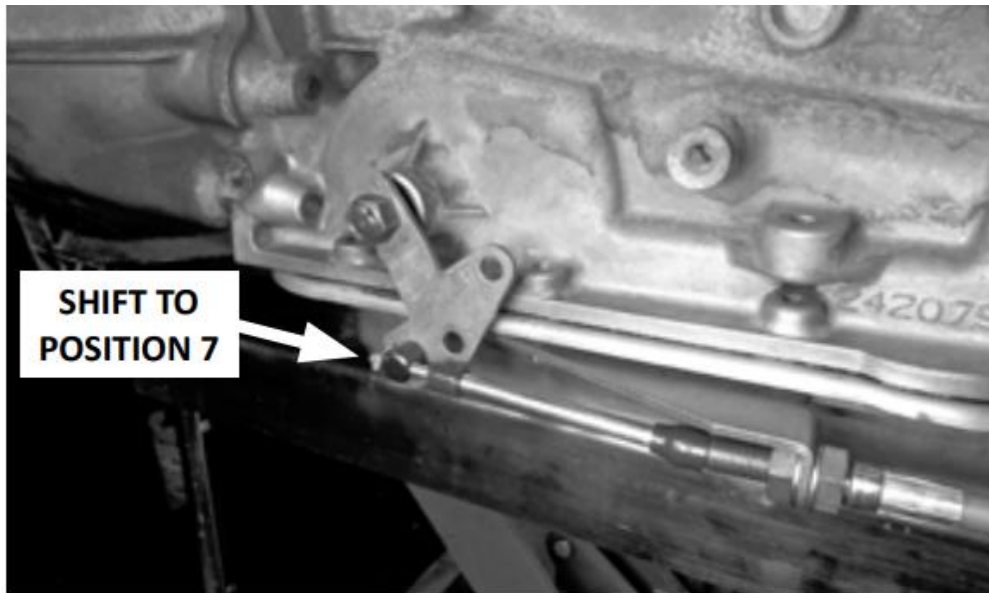

Figure 30
- 54.** With the swivel still in the selector lever, pull the shifter back through position 7 (FIRST gear on 3-speeds, SECOND gear on 4-speeds), verifying that the swivel slips freely in and out of the lever in each position (figure 30).